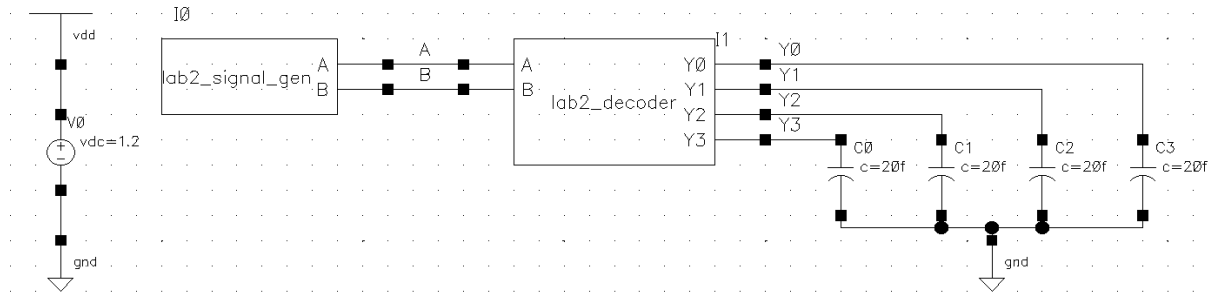

Figure 2: Decoder testbench with net labels.
3. After adding the labels, verify that your schematic is similar to the one in Fig. 2.